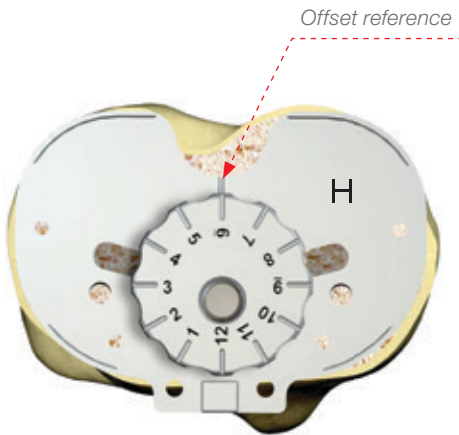

Figure 11
**NOTE.** Once the right positioning is reached, take note of the number marked on the dialer aligned with the reference on the trial tibial plate (Fig. 11).